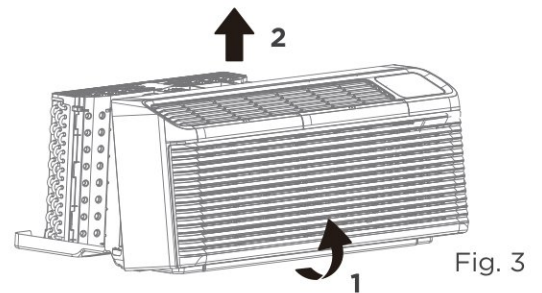

Fig. 3
2. Lift the front panel up. (See Fig. 3.)